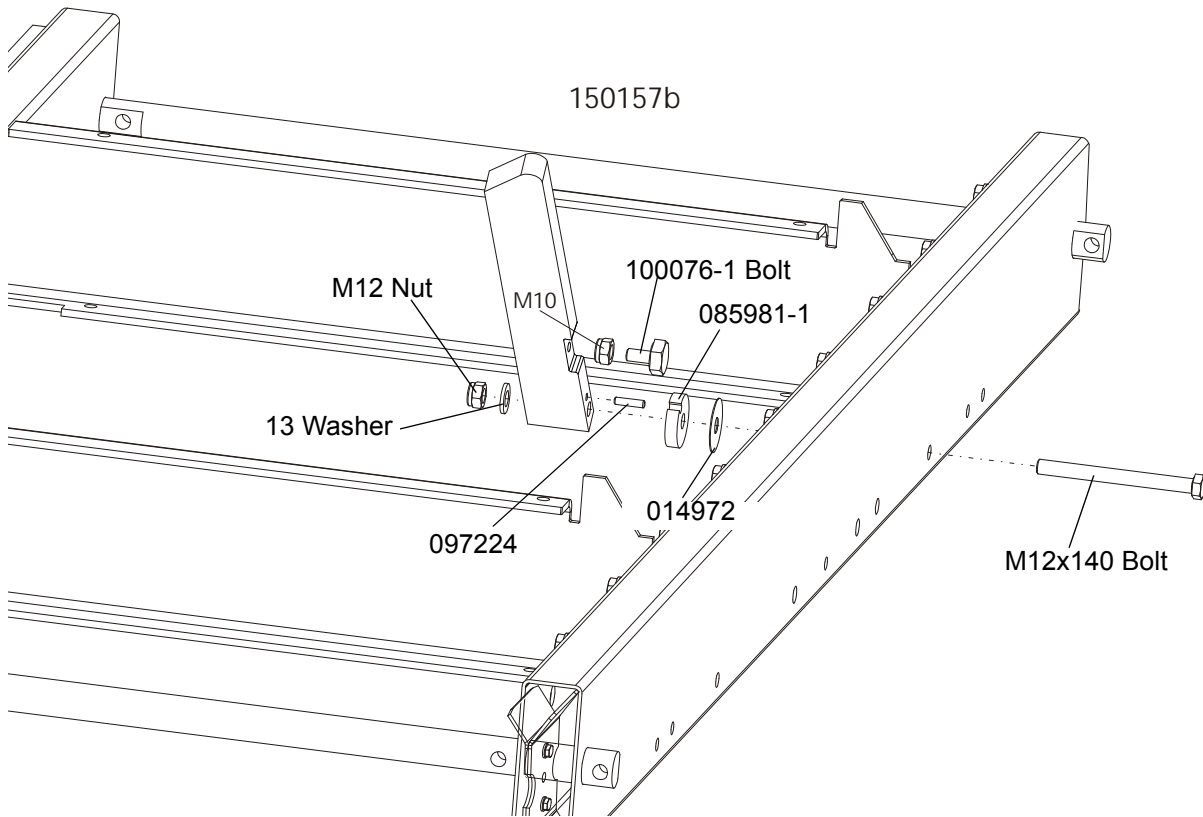

FIG. 2-8
8. Install the log side supports as shown in Figure 2-8. Tighten the nuts so that the side supports can be moved with little resistance. Adjust the side supports. See Section 5.11.
See Figure 2-8.